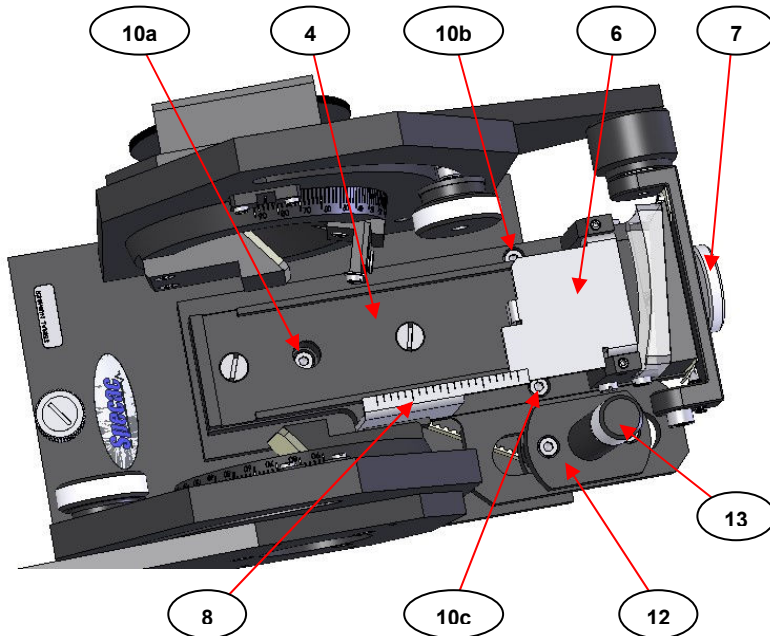

Fig 6. Liquid Sampling Platform Assembly as Fitted in the Monolayer Grazing Angle Accessory
To remove the liquid sampling platform assembly (4) for use of the solid sampling platform assembly (11), the three screws (10a, 10b and 10c) are undone (screwed anticlockwise) using the 2.5mm Allen key supplied. (See Fig 6.) When the liquid sampling platform assembly (4) has been removed, make sure that the fixing screws (10a, 10b and 10c) are kept safely for re-use when necessary.
Note: The PTFE trough (3) **must** be removed from the liquid sampling platform (4) to gain access to the screw (10a) for removal or fitting of the liquid sampling platform assembly (4). The two screws (10b) and (10c) are accessible even with the trough (3) fitted in position. (See Fig 6.)